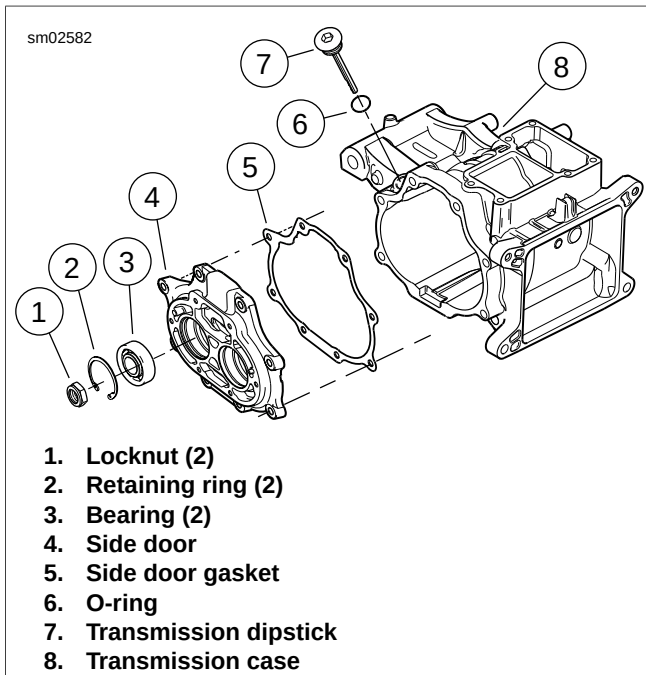

Figure 6-24. Side Door Bearings
1. See Figure 6-24. Remove the retaining rings (2).
4. See Figure 6-24. Install beveled retaining ring (2) with the flat side next to the bearing.